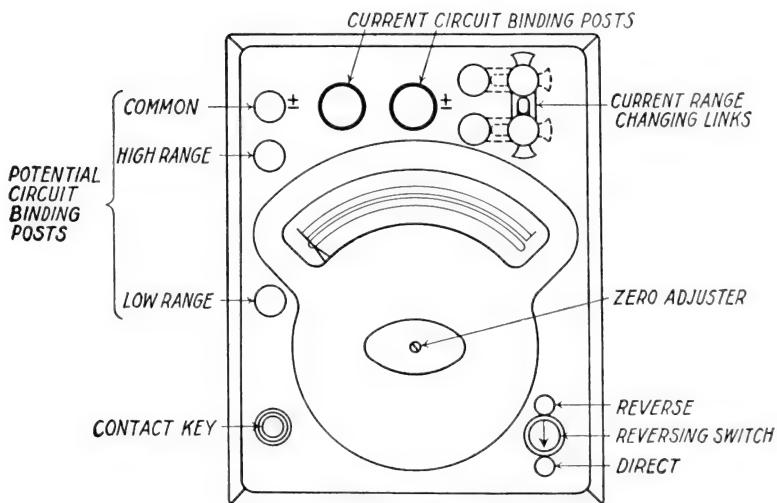
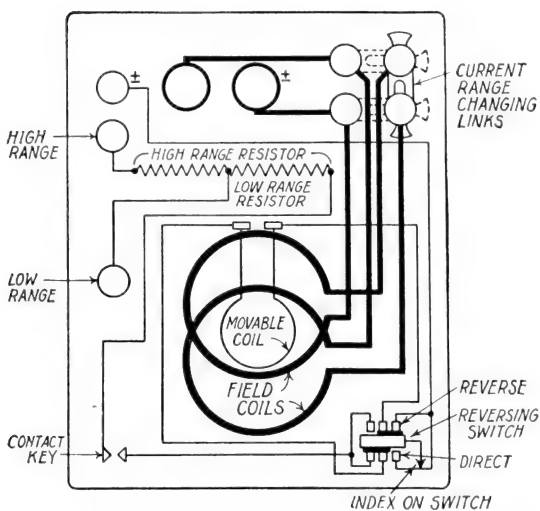
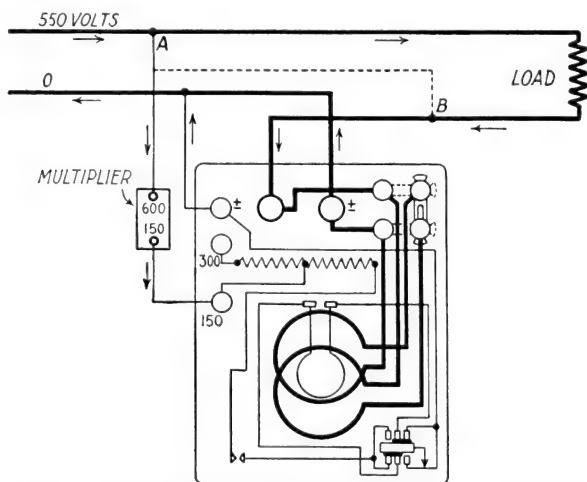

Fig. 10. Wattmeter
Fig. 11. Internal Connections for Dynamometer Type Wattmeter
Fig. 12. Correct Method of Connecting a Wattmeter into a Circuit
**The Wattmeter.** The wattmeter, Fig. 10, is a very important instrument in alternating-current measurements as it provides the only method of determining the true power. Fig. 11 shows a diagram of the internal connections of a Weston dynamometer type wattmeter. The moving coil is wound with fine wire and is practically identical with the moving coil of the dynamometer voltmeter.
It should be noted in Fig. 11 that the voltage terminal is connected directly to one end of the potential coil. This terminal should always be connected directly to the side of the line to which the current coil is connected. Fig. 12 shows the correct method of connecting a wattmeter into the circuit. Since almost all of the potential drop between the two lines in the potential circuit takes place in the series resistance, the current and the potential coils are at the same potential. If the potential coil is connected to the
that the current flows in only one direction, as indicated by the arrows in Fig. 12, and that the potential and current circuits are each connected so that the current will enter at the terminals marked  $\pm$ , then the instrument will read direct. That is, the reading will be obtained when the reversing switch is in the **direct reading** position.
In order to measure power correctly, the wattmeter current coil should carry the load current and the wattmeter potential coil with its series resistance should be connected directly across the load. Fig. 12 shows a wattmeter connected to measure the power taken by a certain load. With the connections as shown, the true load current passes through the current coils, but the potential circuit measures the voltage drop across the load plus the voltage drop across the wattmeter current coils. Therefore the wattmeter reads too high by the amount of power consumed in its own current coils. Under these conditions the true power delivered to the load is equal to the power indicated by the wattmeter less the watts loss in the current coils. This instrument loss may be calculated by multiplying the current squared (times itself) by the resistance of the wattmeter-current-coil circuit. When current transformers are used, it is difficult and often impracticable to allow for the losses with this method of connecting. However, if the loss is appreciable, it may be measured directly by changing the one potential lead from the point *A* to the point *B*, as shown by dotted lines in Fig. 12.
When accurate measurements are required, this is the connection usually employed as the correction for instrument loss may be easily and accurately obtained. To determine the loss in the potential circuit of the wattmeter by direct reading, it is necessary only to open the circuit at the load point *A* in Fig. 12 and con-